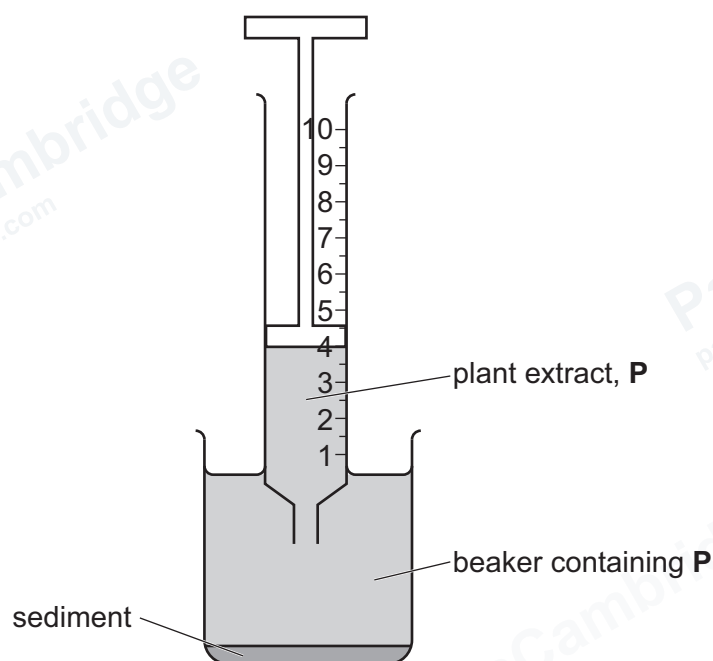

Figure 1.1
- step 3 Hold the syringe so that the nozzle is just below the surface of the plant extract, **P**, as shown in Figure 1.1.
- step 4 Pull the plunger out to the 4 cm^3 mark so that **P** enters the syringe, as shown in Figure 1.1.